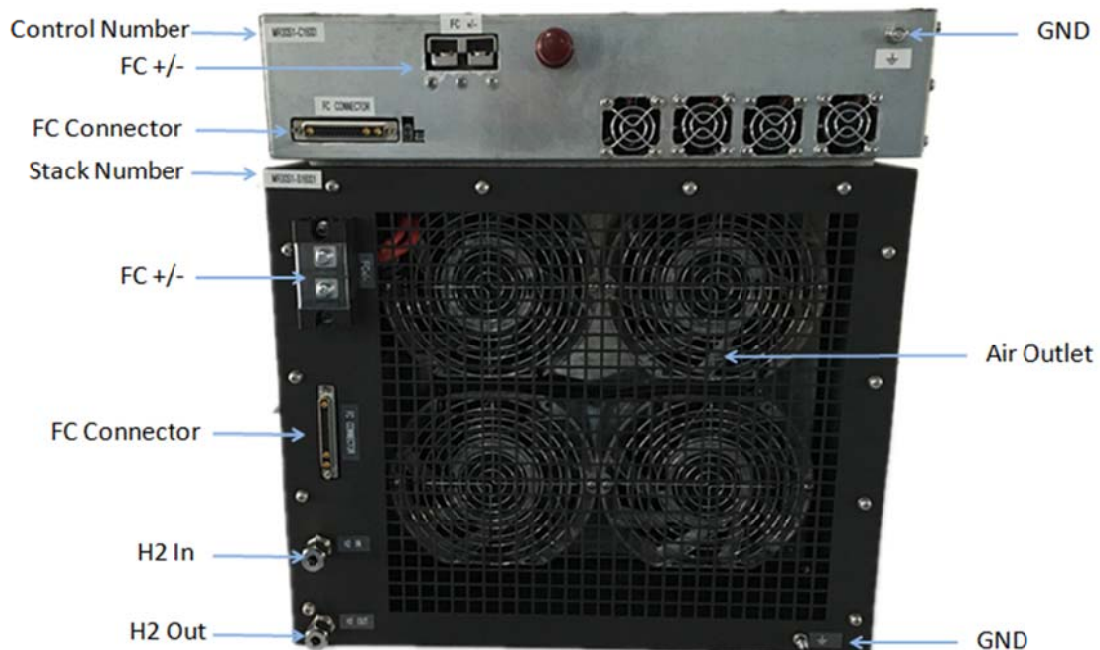

Figure 3-2. The rear panel introduction of T-2.5KW
- The introduction of the rear panel of T-2.5KW system, please see figure3-2.